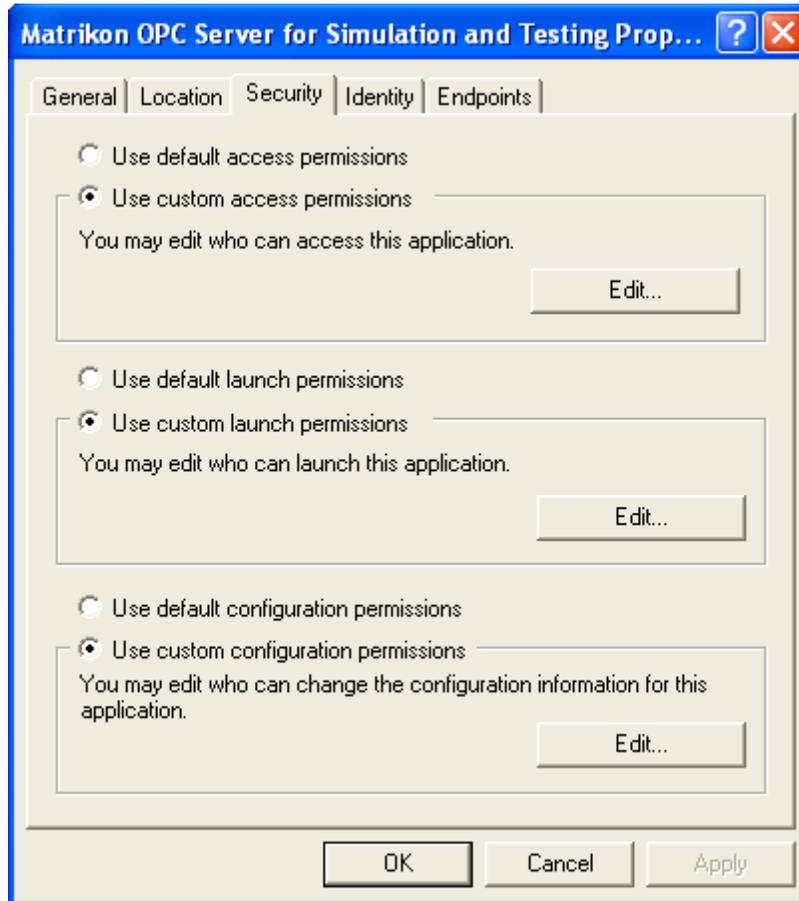

Figure 37 - Distributed COM Configuration Security Tab
5. The **Distributed COM Configuration Security** tab (Figure 37) appears.